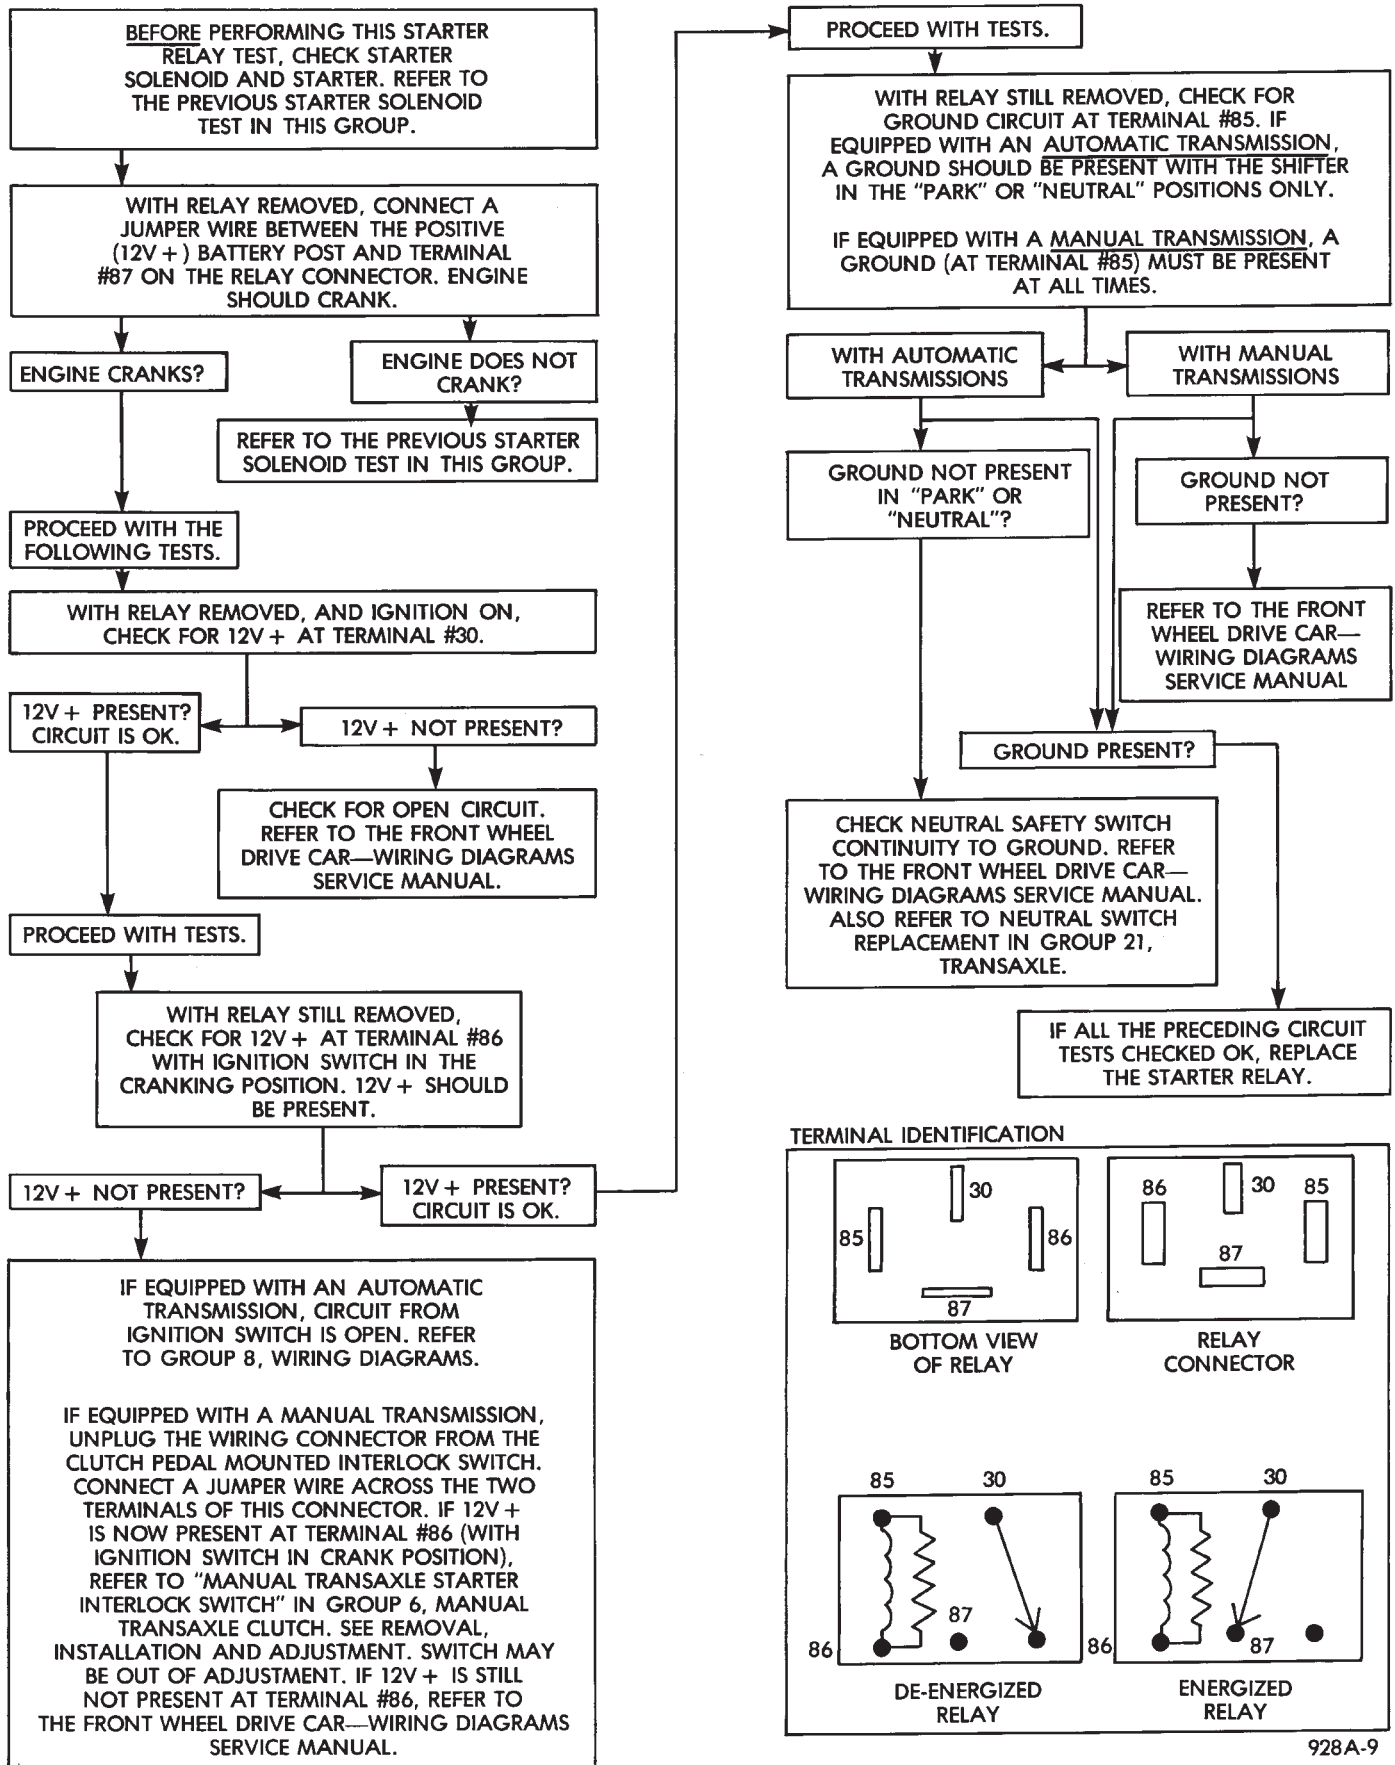

Fig. 15 Starter Relay Tests
(4) After the starter relay has been located and removed, refer to Starter Relay Tests (Fig. 15).
For electrical diagnostics, when checking starter circuits, refer to Starter Relay Tests (Fig. 15).